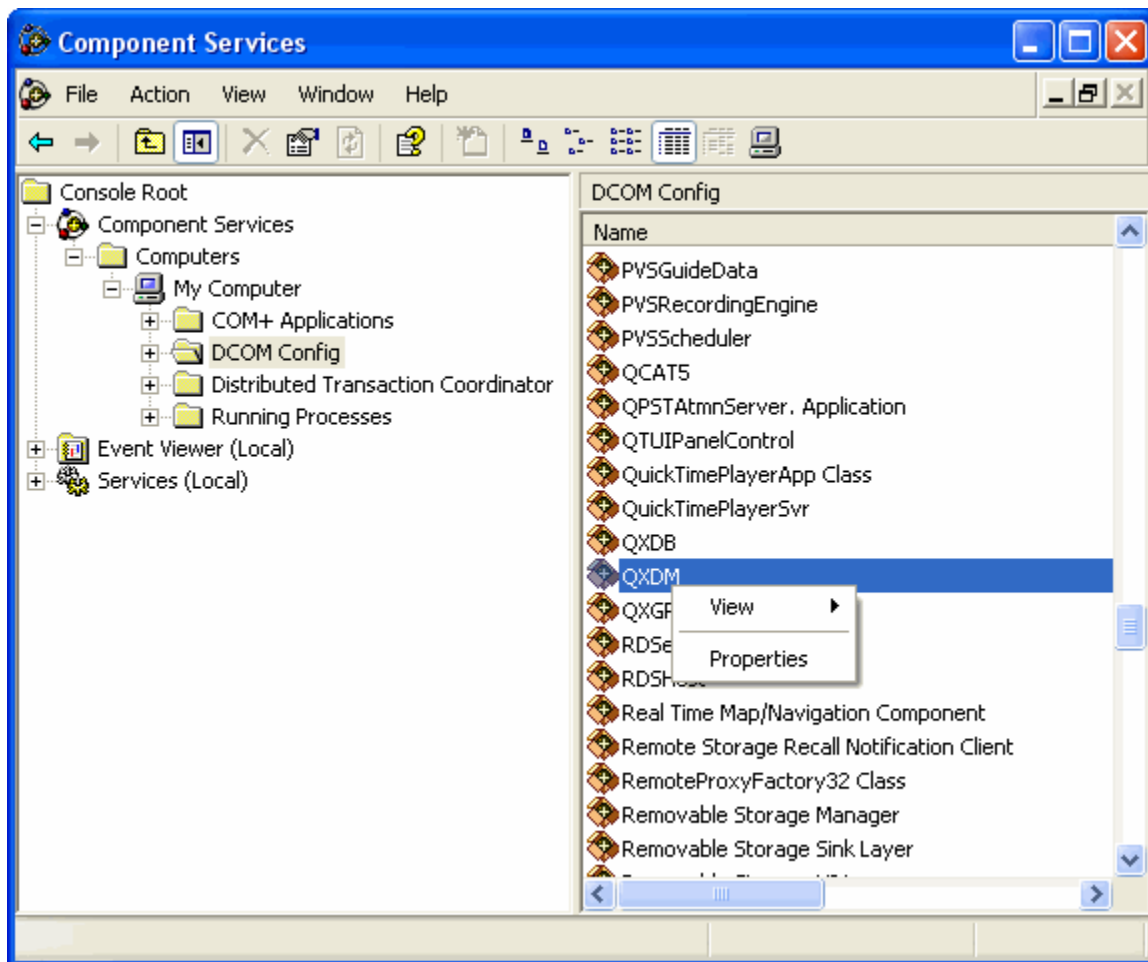

Figure 8-1 Distributed COM configuration properties (Windows XP)
2. Find QXDM from the applications list, as shown in Figure 8-1. If you cannot find it, then QXDM has not been installed properly.